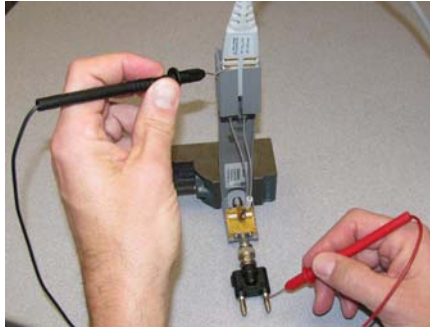

Figure 87 Measuring the Single-Ended Input Resistance the Solder-In Probe Head
- 7 To measure the single-ended input resistance, measure the resistance between the signal plug of the banana adapter and the probe amplifier ground, which can be accessed as shown in Figure 87 (through the vent window of the probe amplifier).